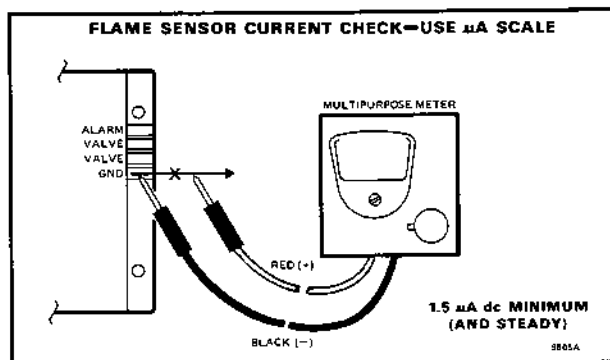

FIG. 11—S87 FLAME CURRENT MEASUREMENT.
1. Connect a meter (dc microammeter scale) in series with the flame signal ground wire as shown in Fig. 11. Use the Honeywell W136A Test Meter or equivalent. Disconnect the ground wire at the S87. Connect the red (positive) meter lead to the free end of the ground wire. Connect the black (negative) meter lead to the quick-connect ground terminal on the S87.